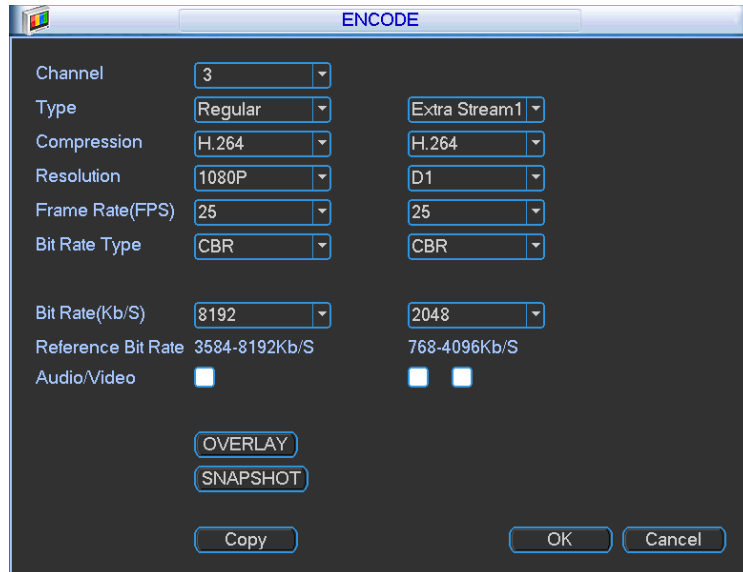
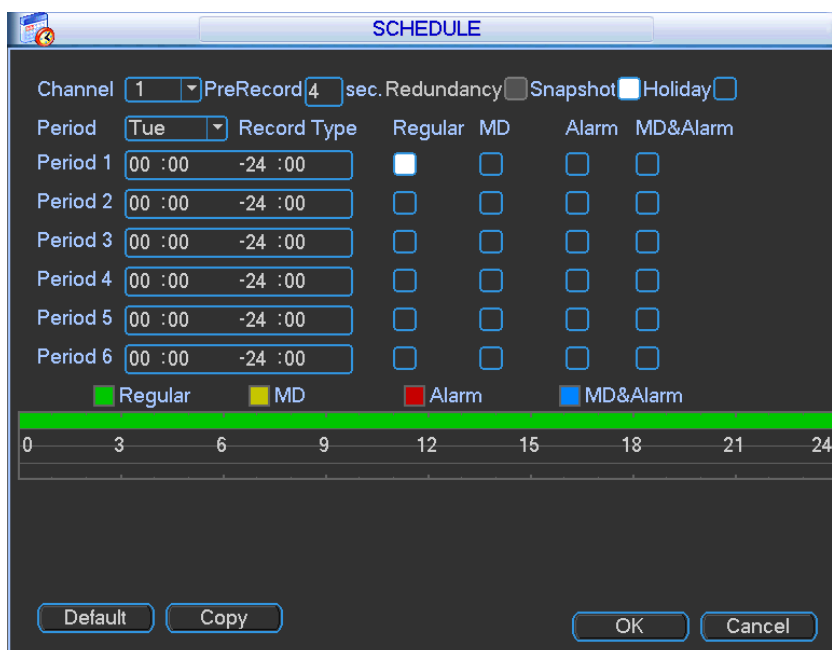

Figure 5-33
Figure 5-36
From Main menu->Setting->Encode, you can see the following interface. See Figure 5-33.
In the main menu, from Setting to Schedule, you can go to schedule menu. See Figure 5-36.
From Main menu->Setting->Schedule, go to the Schedule interface. See Figure 5-36.
From Main menu->Setting->Encode, you can go to encode interface. See Figure 5-33.
From Main menu->Setting->Schedule, you can see Figure 5-36.
- f) From Main menu->Setting-Schedule. See Figure 5-36
- g) Set motion detect record channel, period and the record type shall be motion detect (MD). Please refer to chapter 5.6.2.
- From Main menu->Setting->Encode, you can go to encode interface. See Figure 5-33.
- d) From Main menu->Setting->Schedule, you can go to Figure 5-36.
- b) From Main menu->Setting->schedule, you can go to Figure 5-36 to enable snapshot function.